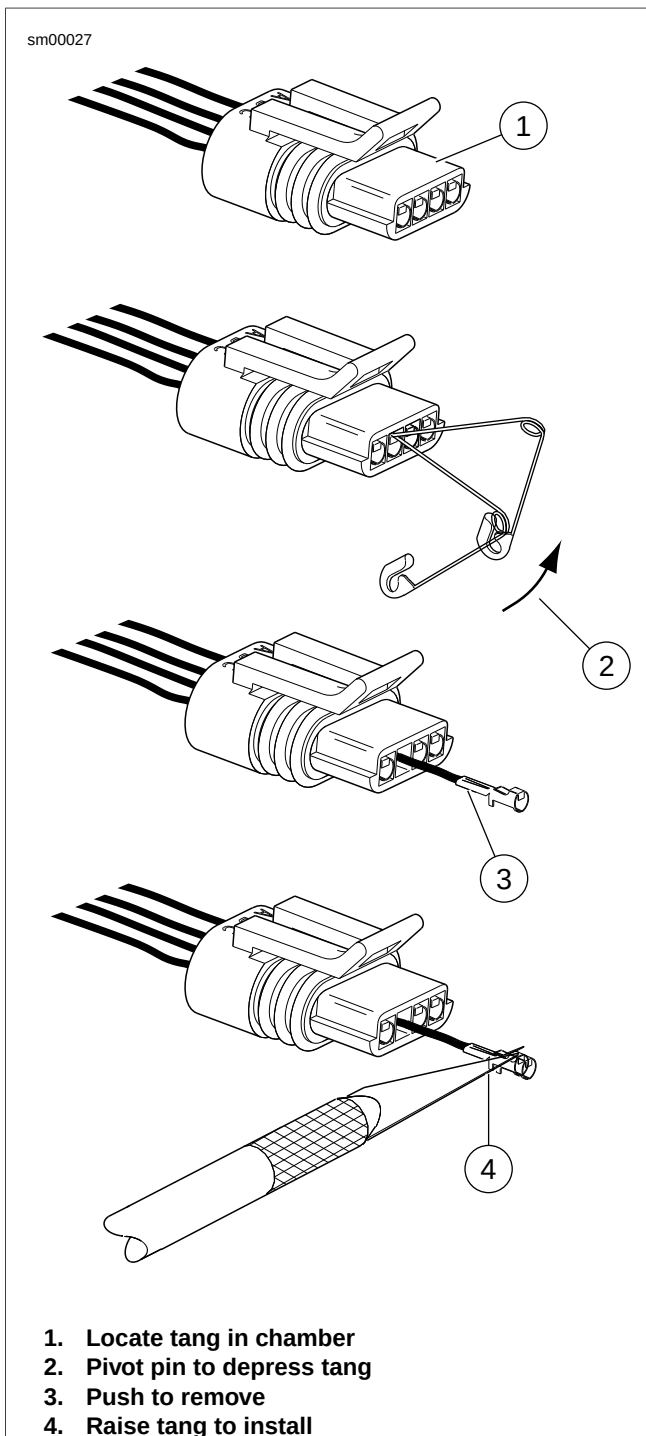
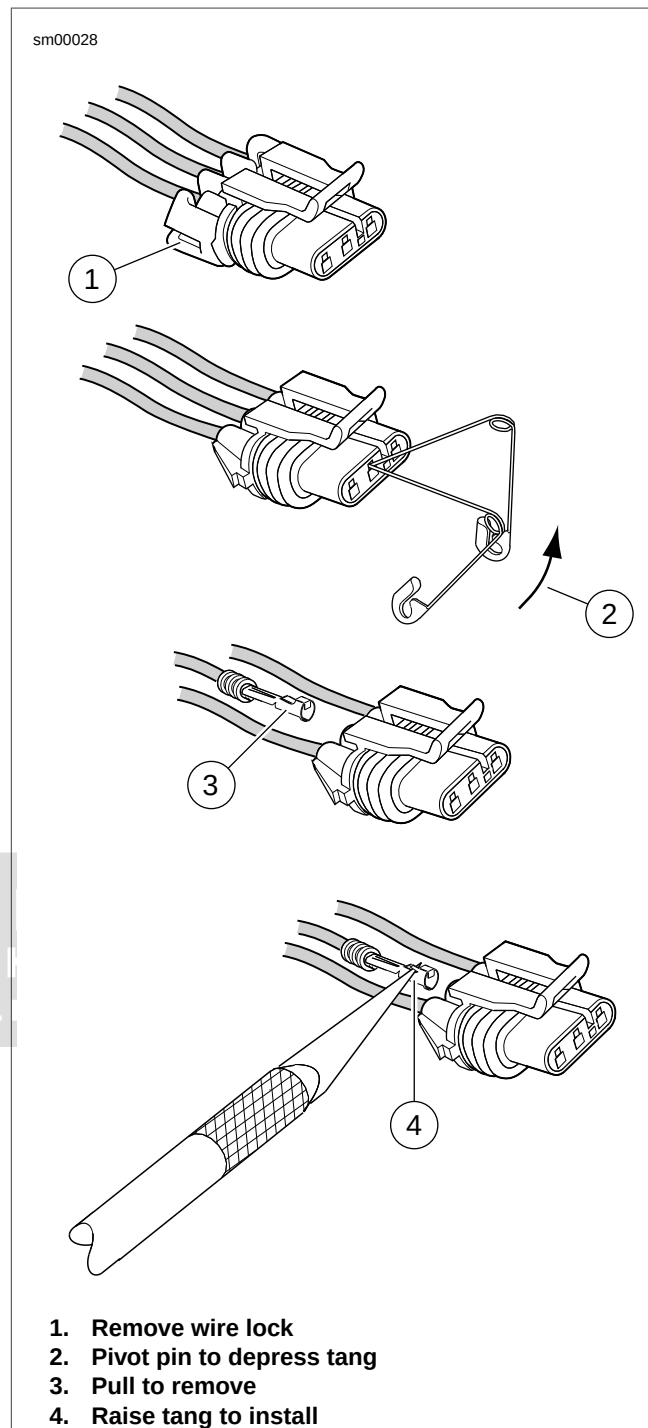

**Figure A-6. Delphi 150 Metri-Pack Sealed Connector:
**Figure A-7. Delphi 150 Metri-Pack Sealed Connector:
1. See Figure A-6 for pull-to-seat connector or Figure A-7 for push to seat connector. Remove wire lock (1) from wire end of socket housing on push-to-seat type connectors.
1. See Figure A-6 for pull-to-seat connector or Figure A-7 for push to seat connector. Using a thin flat blade, like that on a hobby knife, carefully bend the tang outward away from the terminal body.
For push-to-seat: See Figure A-7. Seat wires in separate channels of wire lock and then push channels **inside** chambers at wire end of socket housing. Fully installed, slot on each side of wire lock engages ear on socket housing.